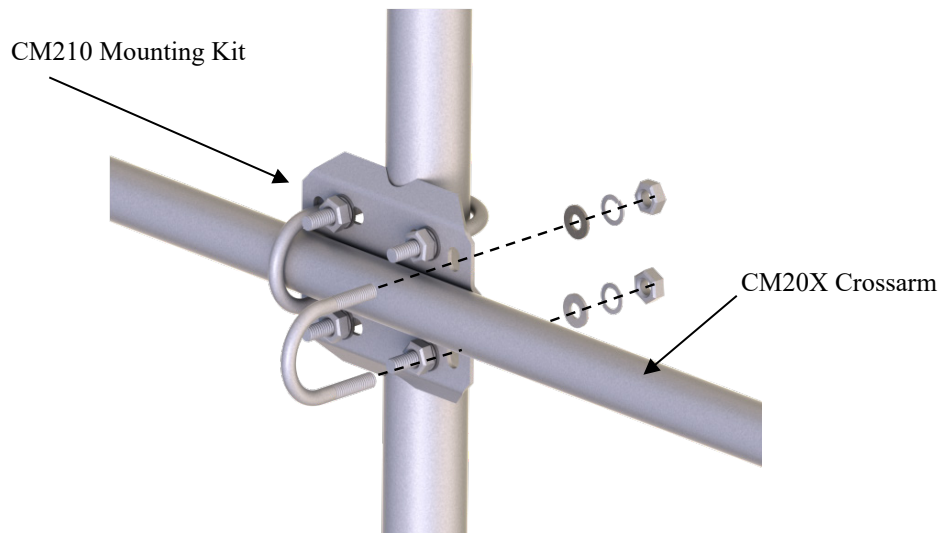

FIGURE 7-5. CM210 mounting kit with CM20X crossarm
1. Secure the chosen crossarm to a tripod or other vertical structure using a CM210 crossarm-to-pole mounting kit as shown in FIGURE 7-5.